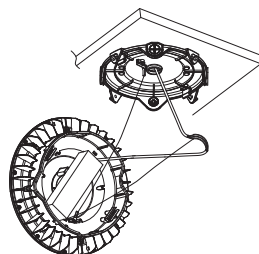

Figure 1-6
6. Connect the input line and ground; If the fixture is equipped with sensor, adjust the sensor settings. Take relevant waterproof measures after the wires are connected. Figure 1-6